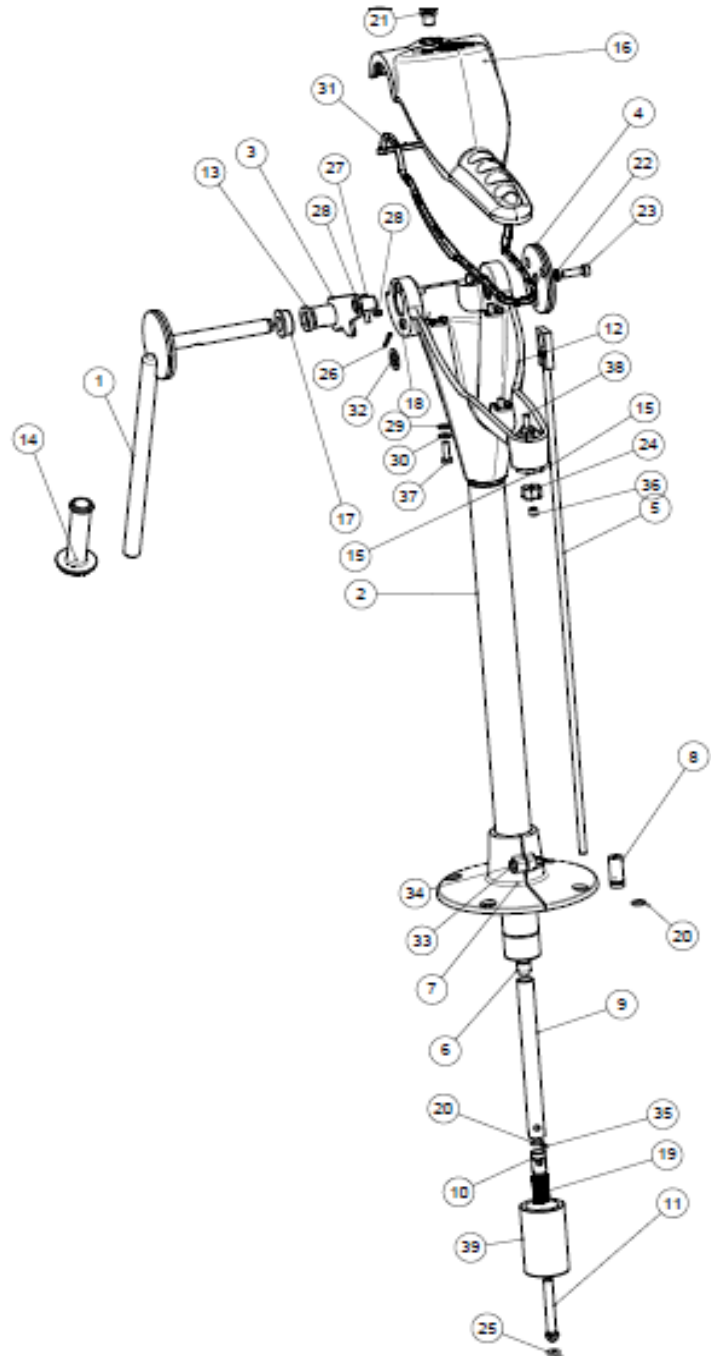
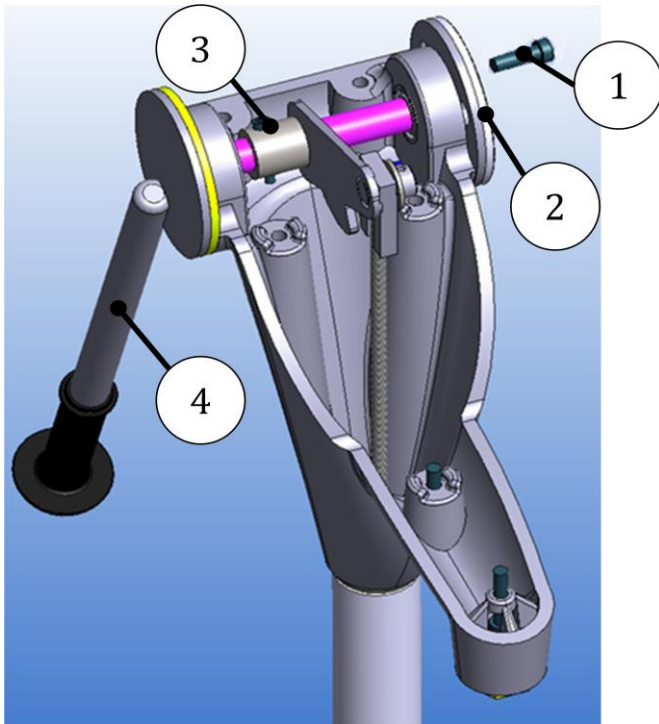

Figure 1: NIRA Playground Pump
Figure 8: Changing the rocker shaft bushes and seals
The parts of NIRA 67 Playground pump are shown below (Figure 1, Figure 2).
4. Add priming water (1 liter) before use. Remove plug (Figure 1 (21)) on top of the pump. Fasten the plug.
2. Remove the plug on top of the cover (Figure 1(21)).
If the screw (Figure 1(23)) comes loose do not try to tighten it. The screw must be removed and thread locker (e.g. Loctite-Threadlocker) must be added to the thread.
Use only new locking washers (Figure 1 (22)). Install the handle again with the washers and tighten the screw with approx. 40Nm torque.
NIRA playground pumps do not need periodical service. Water impurities are the most common reason for malfunction in the valve system. In this case the valve needs to be cleaned. When the pump opened and cleaned, change the O-rings in valve at the same time. Intensive use may cause the spring (Figure 1 (19)) to wear out and break.
2. Loosen the screw (1) (Figure 8) with the locking washer.
3. Remove the side plate (2) (Figure 8).
4. Remove the screw (3) (Figure 8).
5. Now the handle (4) (Figure 8) can be removed in order to change bushes and seals (see Figure 1)
3. The piston rod can now be removed. Notice the pellet (6) (Figure 1).
1. Open the screw (2) (Figure 10). Make sure that the cylinder bottom (10) (Figure 1) at the lowest position (marked with red).